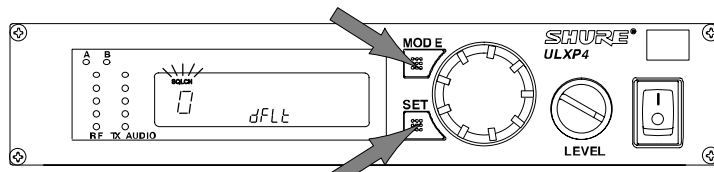

FIGURE 41
1. Hold down the receiver SET button and press the MODE button twice. "SQLCH" will flash on the display, as shown in Figure 41.